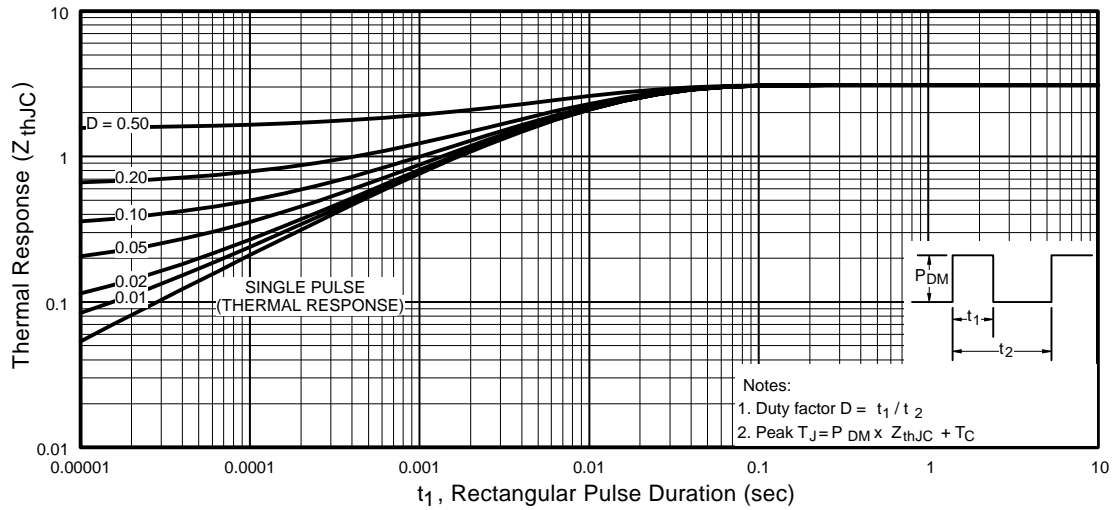

Fig 11. Maximum Effective Transient Thermal Impedance, Junction-to-Case
① Repetitive rating; pulse width limited by max. junction temperature. (See fig. 11)
② Starting $T_J = 25^\circ\text{C}$, $L = 13\text{mH}$